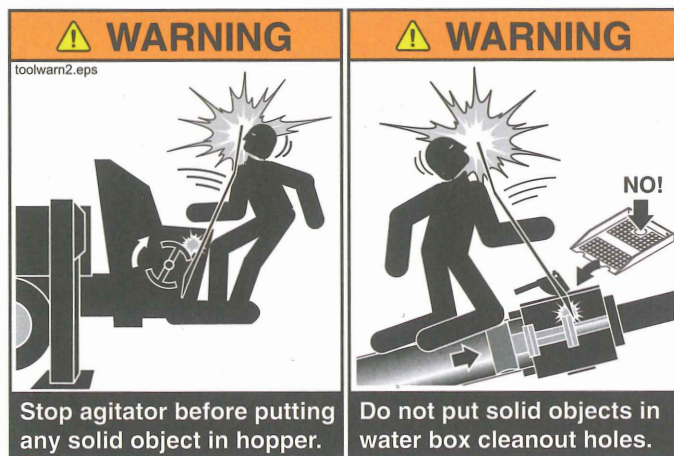

Figure 28
8.4 **⚠ WARNING** Never put a bar or other solid tool into the hopper, water box, or other working system while the hydraulics are operational (Figure 28).